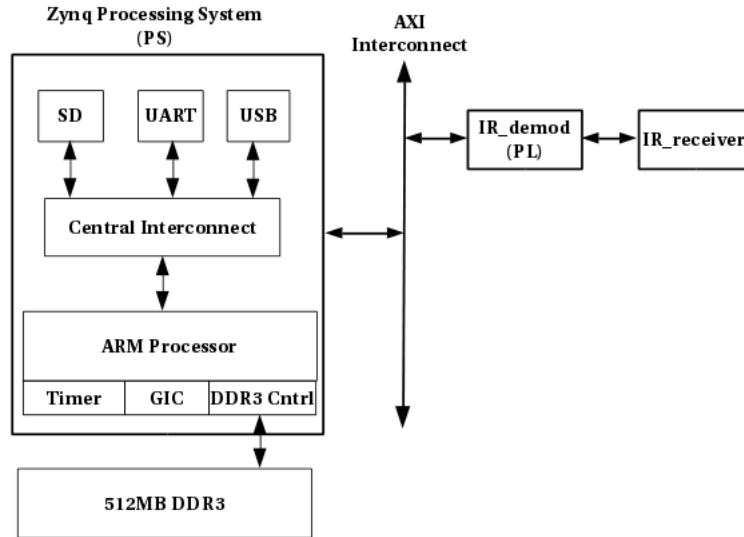

Figure 1: Zynq System Diagram
- (a) Create a block design in Vivado with everything shown in Figure1, except the IR hardware. If any doubts about the procedure refer to lab 4.